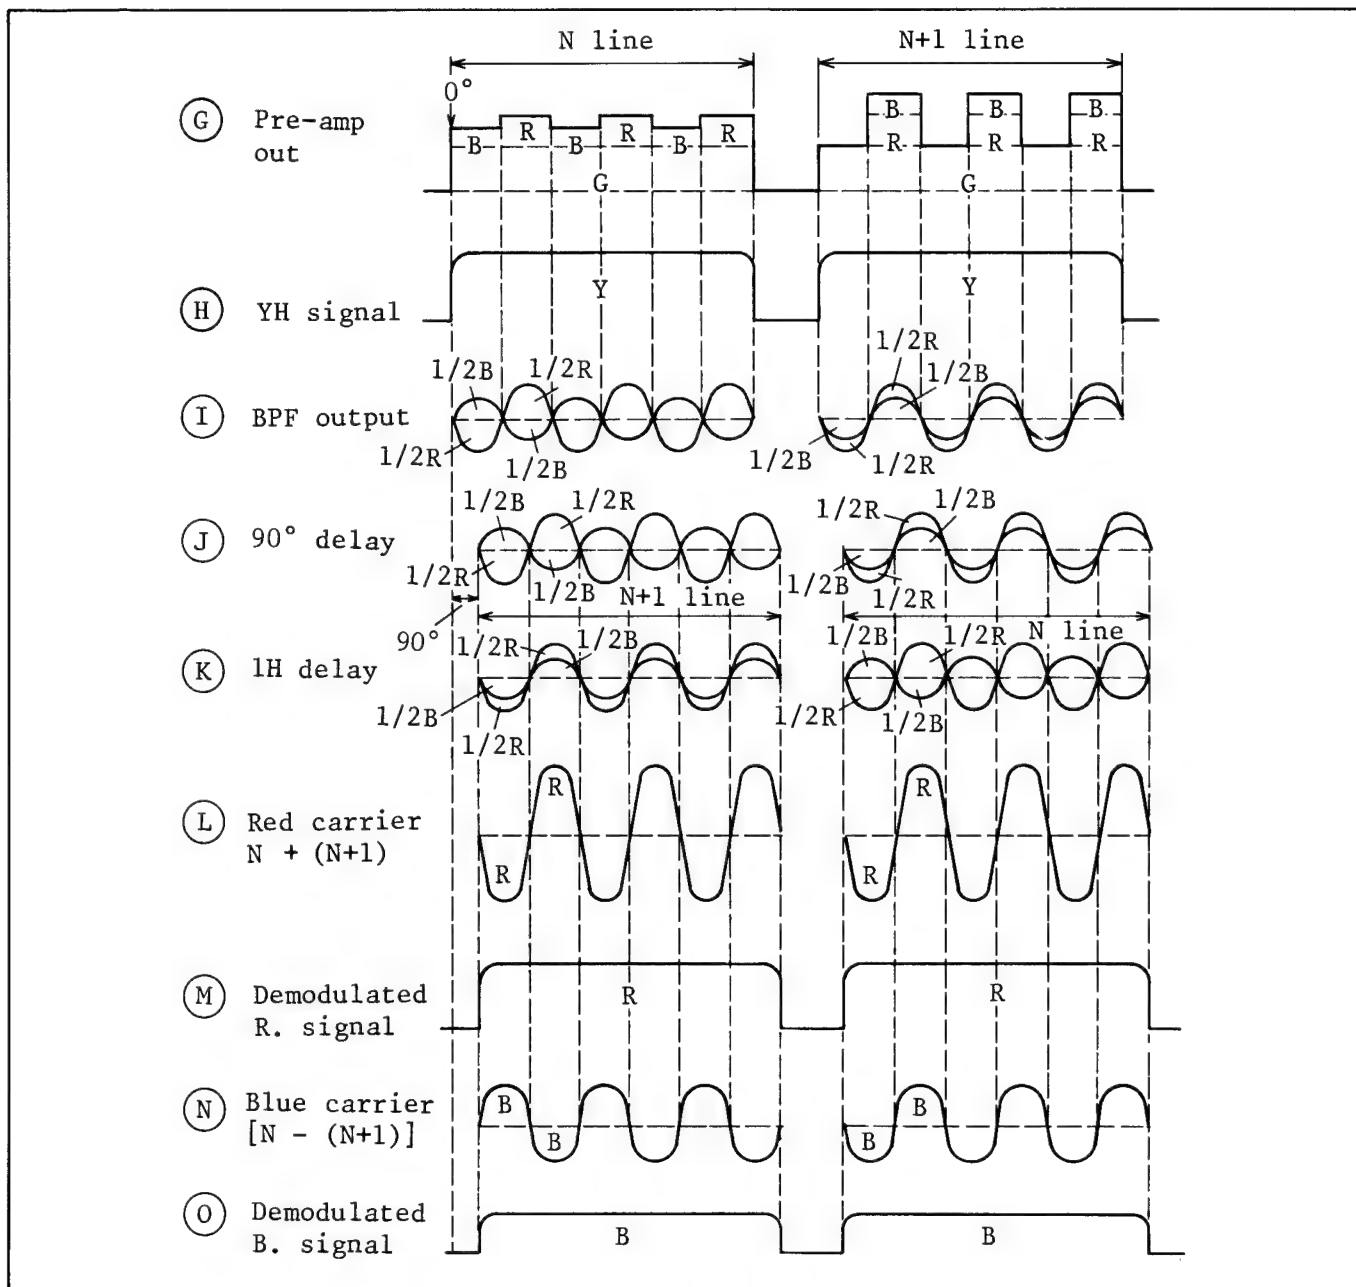

Fig. 13. Detection of Y,R and B. signals
The incoming light is thus converted by the integrated stripe filter into a signal which contains R and B signals modulated by 3.58MHz. This signal is sent to the pre-amplifier, where it is amplified (Fig. 13-(G)). The amplified signal G from the pre-amplifier is sent to a low pass filter circuit, which passes only the luminance (YH) signal (Fig. 13-(H)) making up the G signal. The amplified signal G is also supplied to the band-pass filter (BPF) whose center frequency is 3.58MHz, through which only the modulated signal 1 passes.